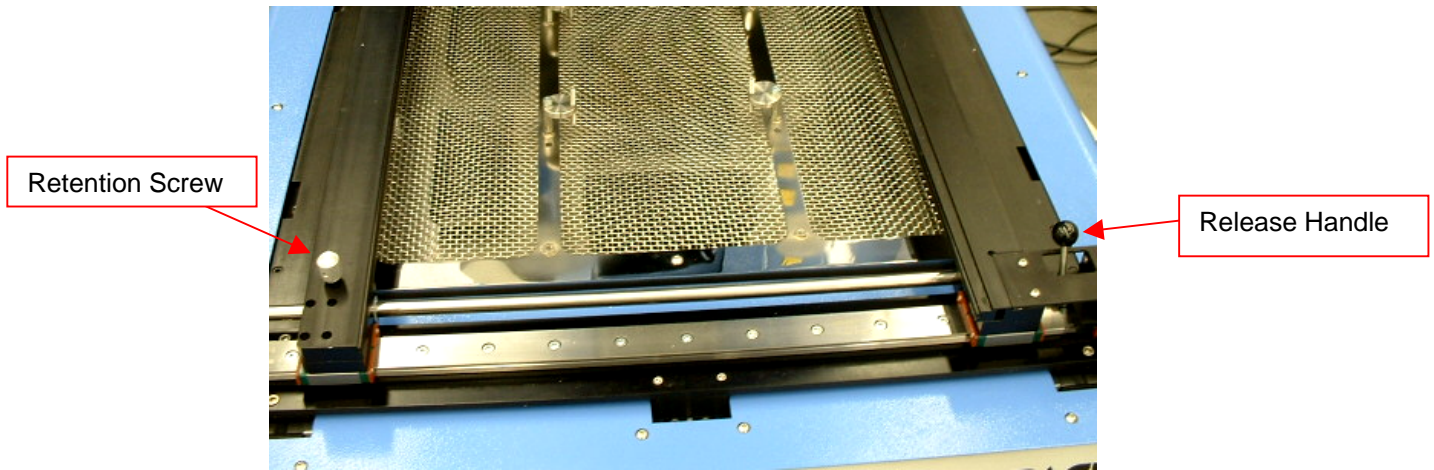

Figure 16
- v. Place the PCB between the arms on the TF 2500 and tighten the retention screw. (Figure 16)
- viii. The camera will automatically come out. (Figure 16)